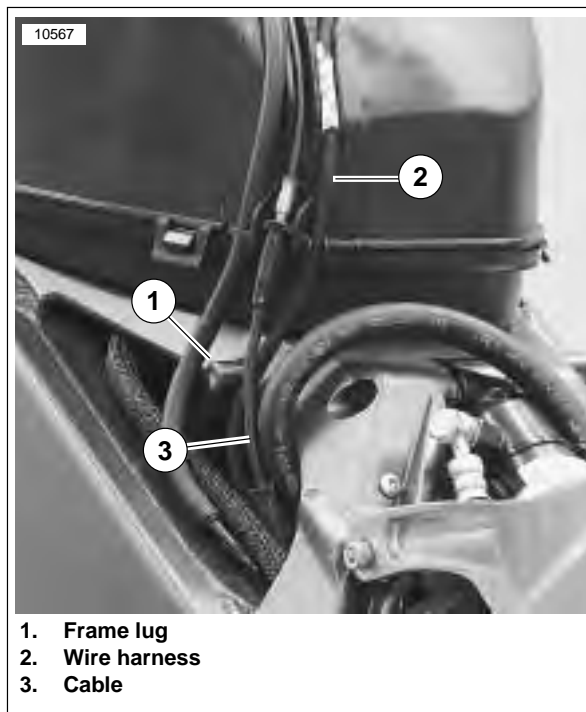

Figure 7-90. Correct Cable Routing Behind Frame Lug
3. See Figure 7-90. Verify that the interactive exhaust cable (3) is routed behind the frame lug (1) before installing air intake cover.